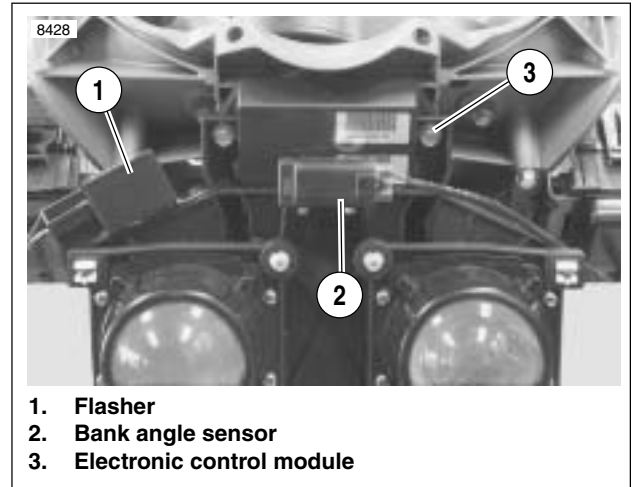

Figure 2-97. Headlight Support Bracket
4. See Figure 2-97. Disconnect flasher (1) and bank angle sensor (2). Remove electronic control module fasteners (3).
1. See Figure 2-97. Remove bank angle sensor (2).
2. Connect headlight bulb (8) connector (white) into wire-harness.
4. Install black rubber cover (4).
5. See Figure 2-97. Install bank angle sensor connector case (2). Tighten to 12-36 **in-lbs** (1-4 Nm).
6. Install flasher (1) and tighten to 30-40 **in-lbs** (3-5 Nm).
7. See Figure 2-97. Install electric control module.
- b. Tighten electronic control module fasteners (3) to 72-96 **in-lbs** (8-11 Nm).
8. See Figure 2-97. Connect flasher (1) and bank angle sensor (2).